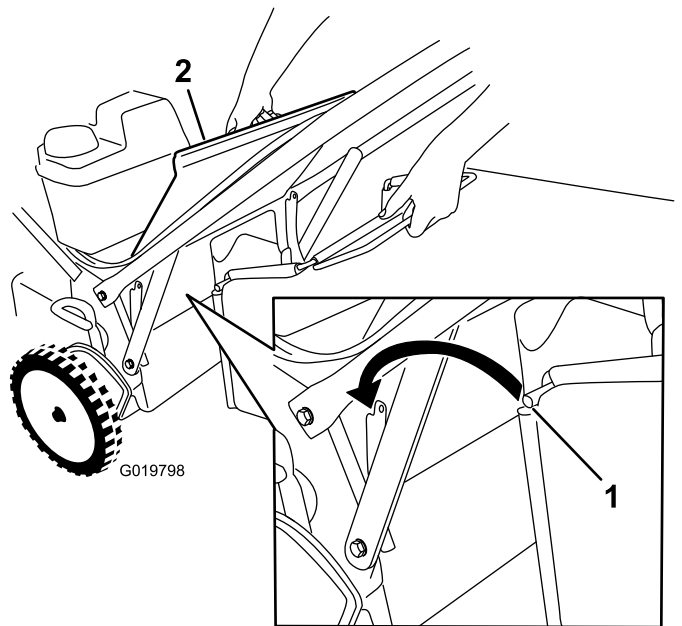

Figure 21
1. Raise and hold up the rear deflector (Figure 21).
the rod is seated at the bottom of both notches; refer to Figure 21.